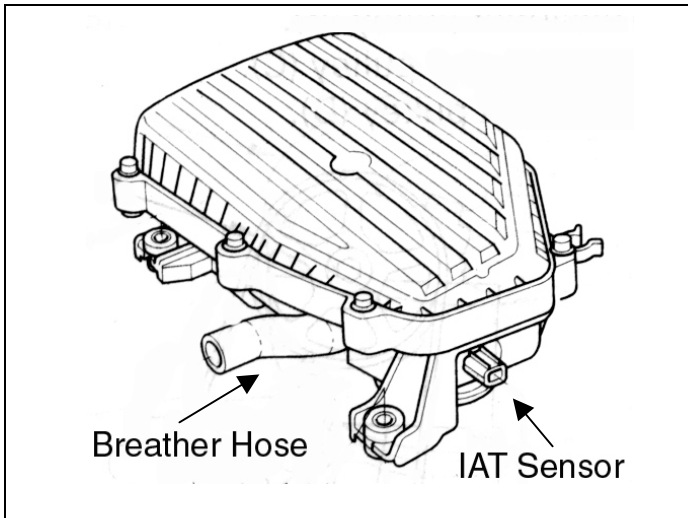

Fig. 1
- a) Before removing any of the O.E. components, **label each individual part so that no components become mixed up during the installation process.** There is one breather hose and one Intake Air Temperature (IAT) sensor. Refer to the following diagrams for the identification of these components. **(Fig. 1)**